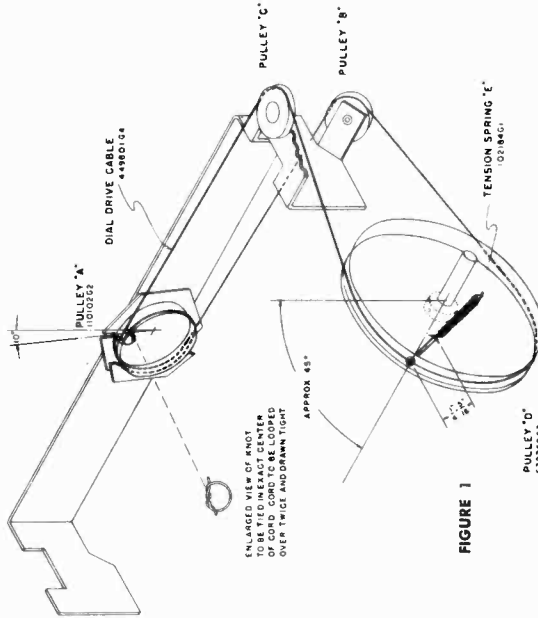

FIGURE 1
method for tying this knot is shown as an inset on Figure 1. Grasp the cable near the knotted end and slide it into the pulley slot so that the knot is against the inside rim of the pulley as shown in the sketch. The piece of cable nearest the dial frame should be wound in the direction shown for one-half turn; then over the lower pulley "B"; around the bottom of the large pulley "D"; and into the hole. Pull the cable taut and wrap the end around the small hook on pulley "D" temporarily.
1. Remove the signal generator lead from the 6SA7 grid and connect it to the radio antenna terminal through the .00025 mid. capacitor. The ANT-LOOP switch (89) must be in the ANT. setting.
2. Check the tuning dial pointer adjustment. When the plates of the tuning condenser are completely meshed, the dial pointer must be in line with the last calibration mark at the low frequency end of the dial. If it is not, loosen the set screws in the hub of pulley "D" shown on Figure 1 and make the necessary adjustment.